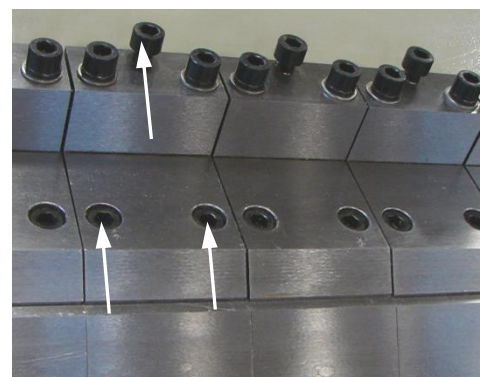

figure 17
4. Loosen the three socket capscrews (fig. 17) on all the fingers you are using, with an 8mm hex wrench.